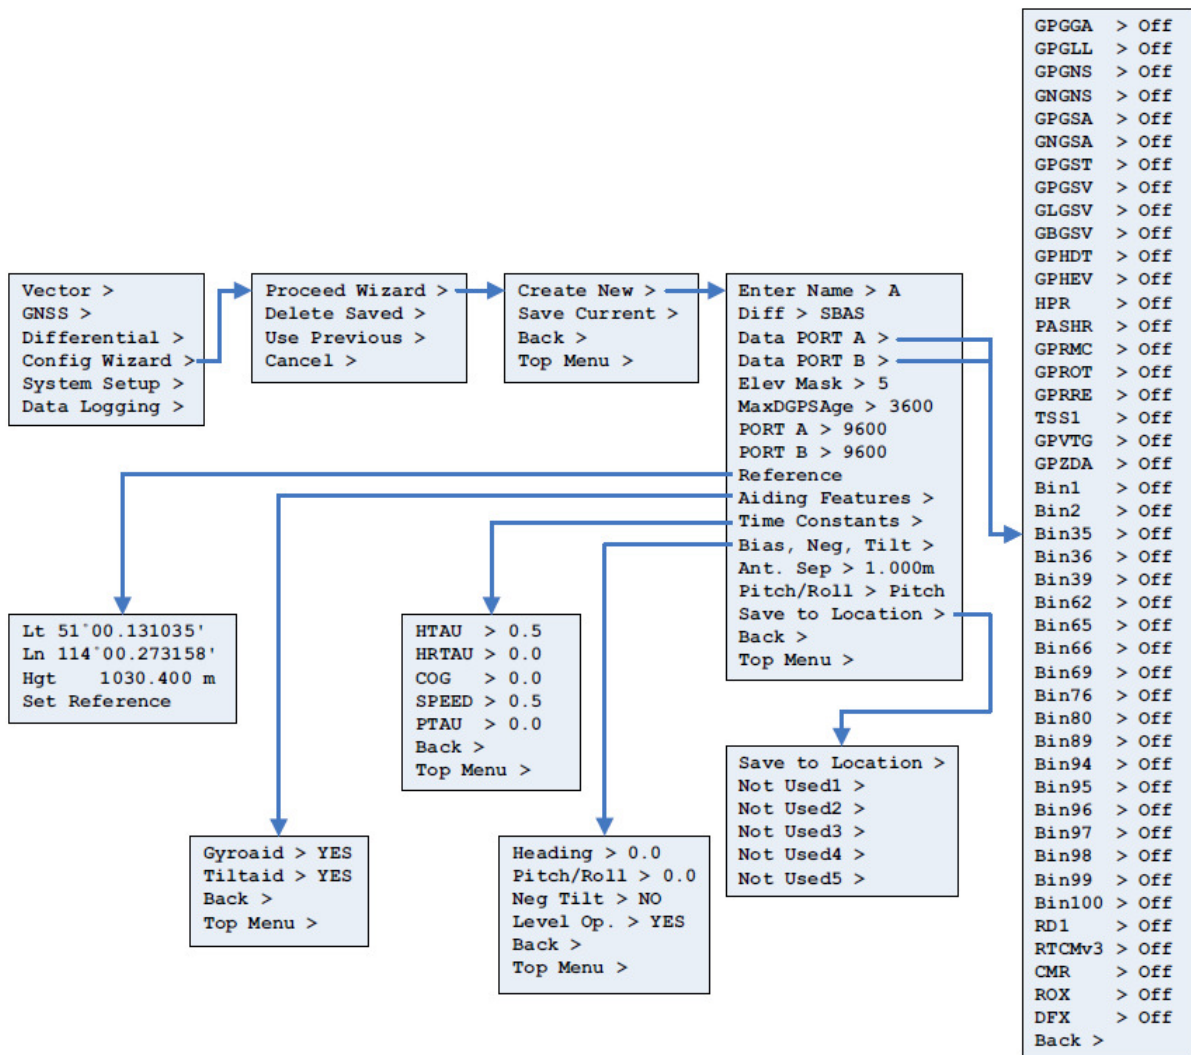

Figure 4-3: Config Wizard Menu
This section describes the basic Config Wizard options you need to set to get up and running. Figure 4-3 outlines the menu structure of the Config Wizard menu.
2. Select **Create New** to create a new configuration. You are prompted to enter a name for your configuration. In addition to the Name you can set the options shown at right (also shown in Figure 4-3 on the previous page).